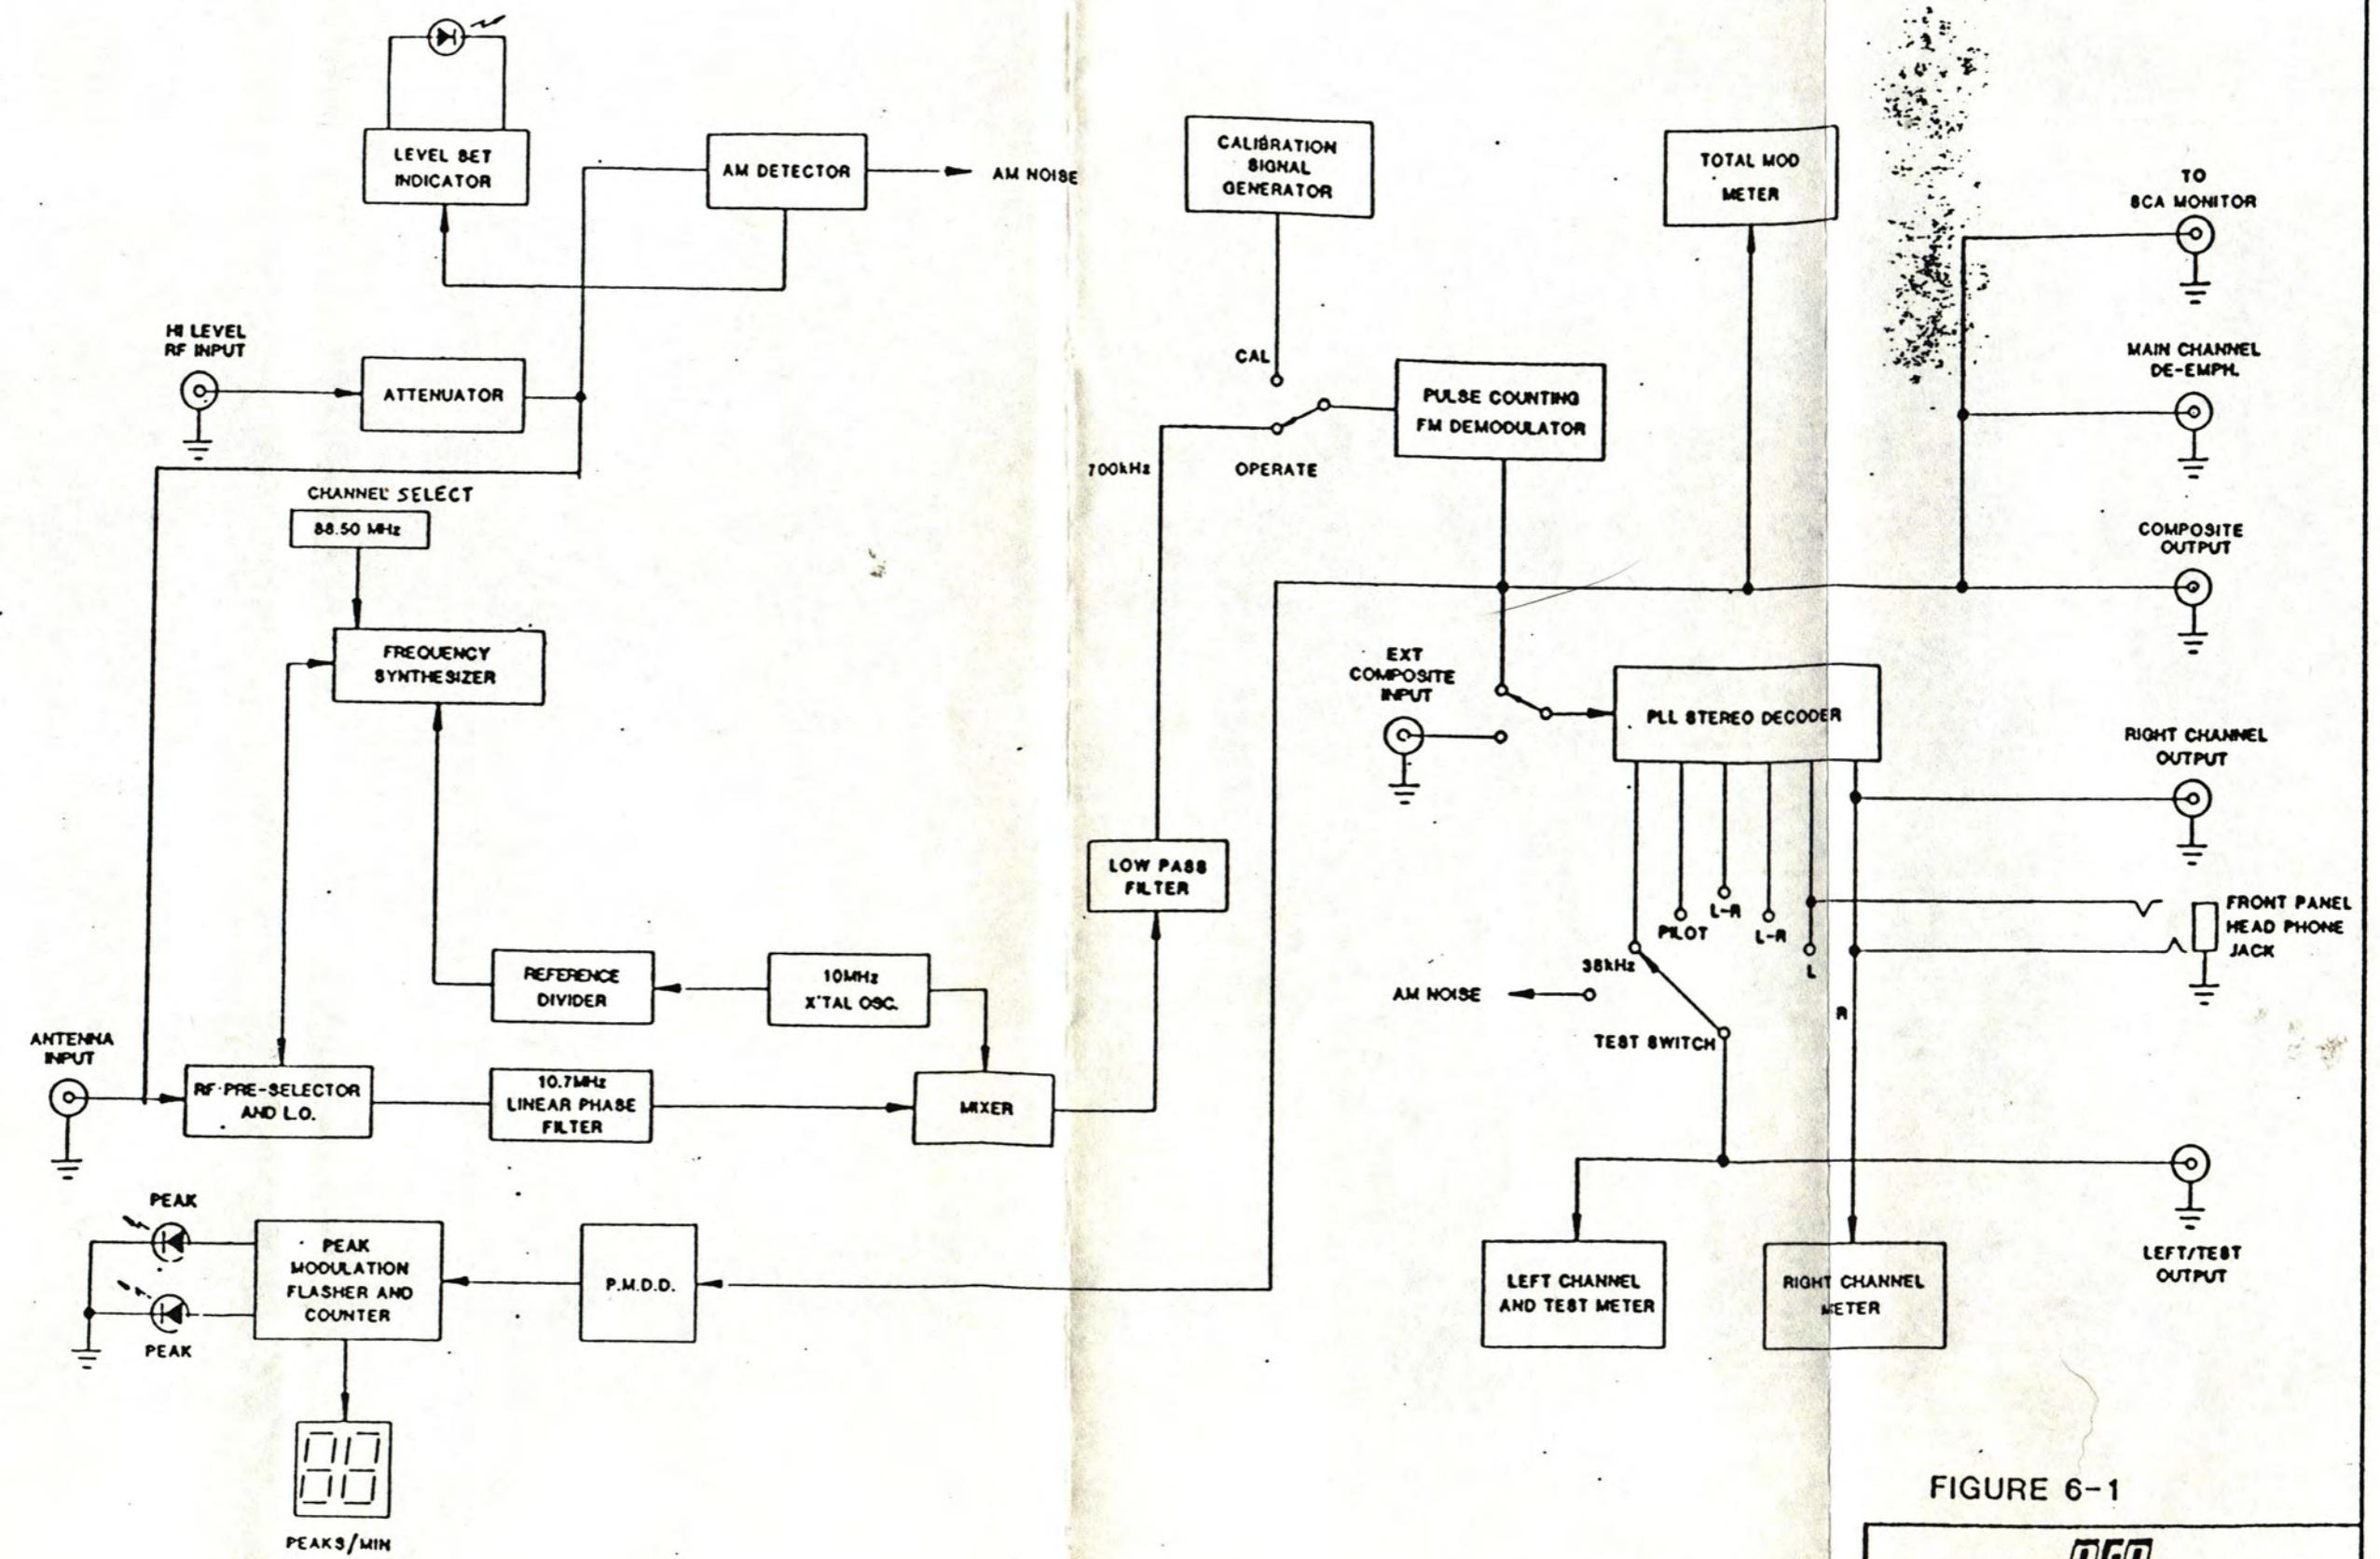

FIGURE 6-1
4.1 General Discussion (Figure 6-1)
The Model 884 FM Modulation and Stereo Monitor contains a low level RF preselector, FM monitor, stereo baseband monitor, and a peak detector. Four major circuit boards perform these functions: RF Preselector A1, FM Demodulator A3, FM Stereo A4, and Display Driver A6. The block diagram, Figure 6-1, is located in Section 6 of this manual.